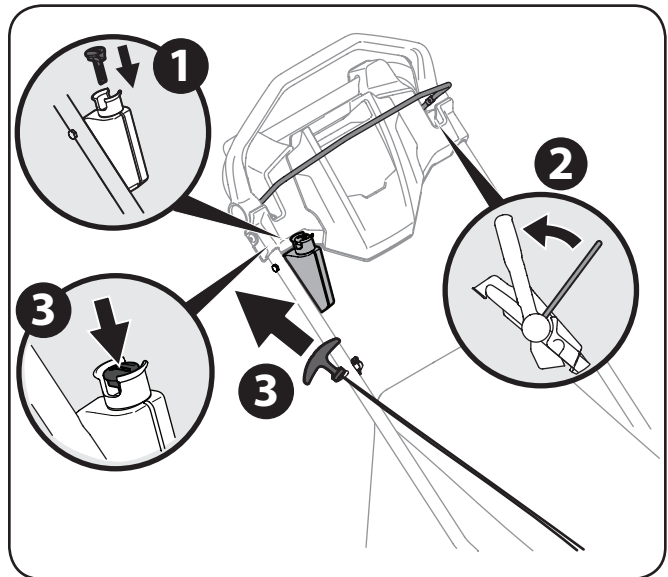

Figure 5-4
2. Standing behind the mower, pull the blade control back against the drive control. See Figure 5-4.
**Electric Start (If Equipped):** Push the electric starter push key to start the engine. See Figure 5-4.